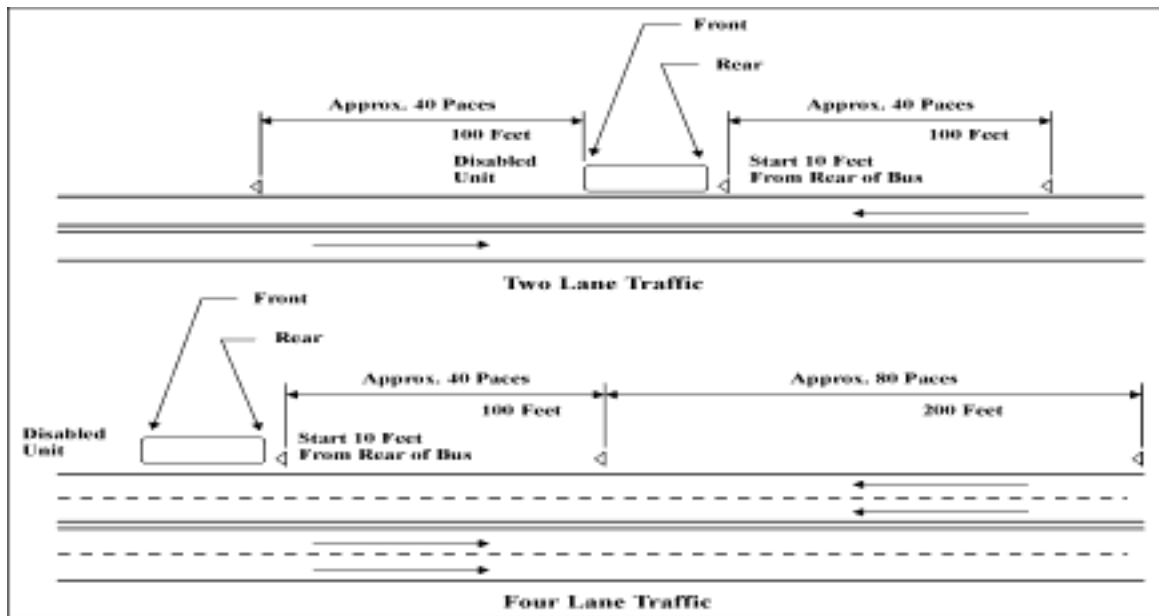

Figure 3—Triangular Warning Device Positioning
2. Inspect mounting fasteners every thirty (30) days. **Figure 3—Triangular Warning Device Positioning.**